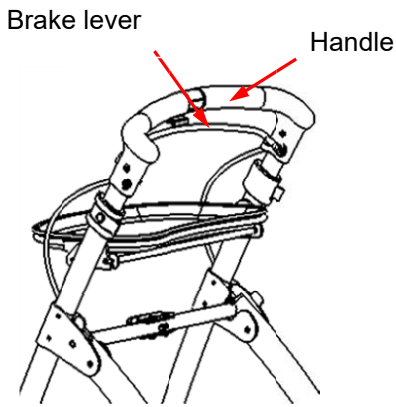
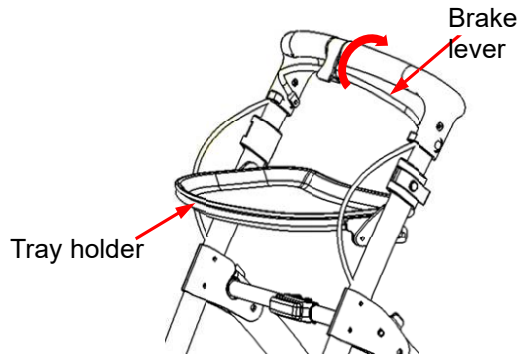

Figure 5
Figure 6
1. Grab both handles and the brake bar and hold the brake bar. As shown in **figure 5**, attach the brake bar. As shown in **figure 6**, when you hear the "click" sound, the brakes are locked.